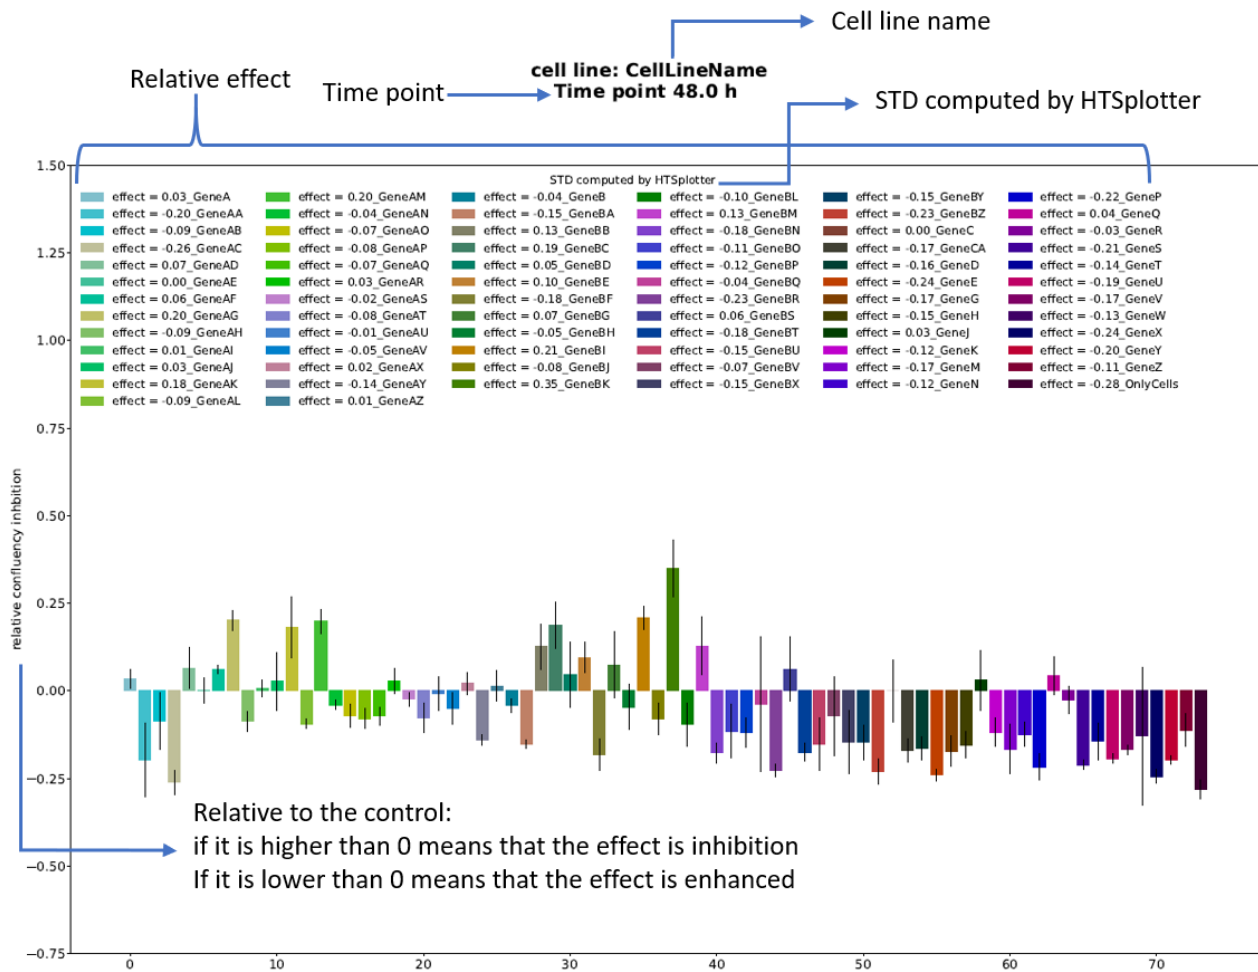
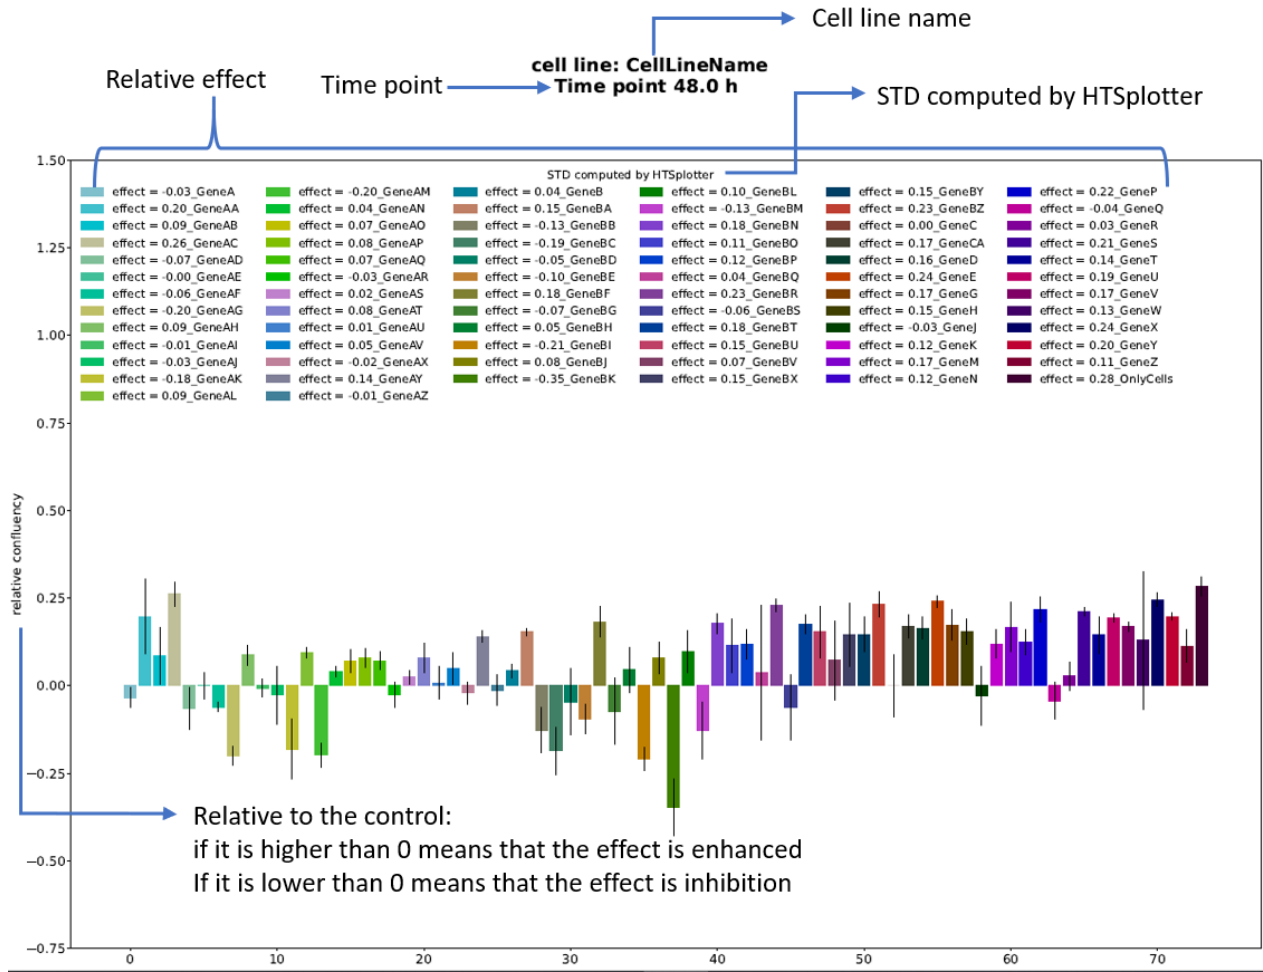

Figure 35: Inhibition effect of all genetics perturbagens plotted. On the legend, the inhibition effect relative to the control is shown.
Figure 36: Effect of all genetics perturbagens plotted. On the legend, the effect relative to the control is shown.
- Bar plot is with all perturbagen, shown as inhibition (Figure 35) and as enhanced (Figure 36)